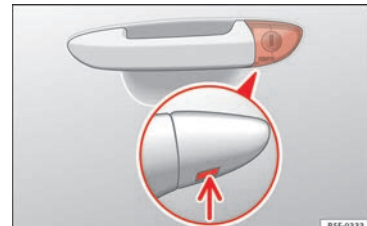

Fig. 3 Driver door lever: hidden lock cylinder.
- Insert the key blade into the lower opening in the cover on the driver door handle **»** **Fig. 3** (arrow) then remove the cover upwards.